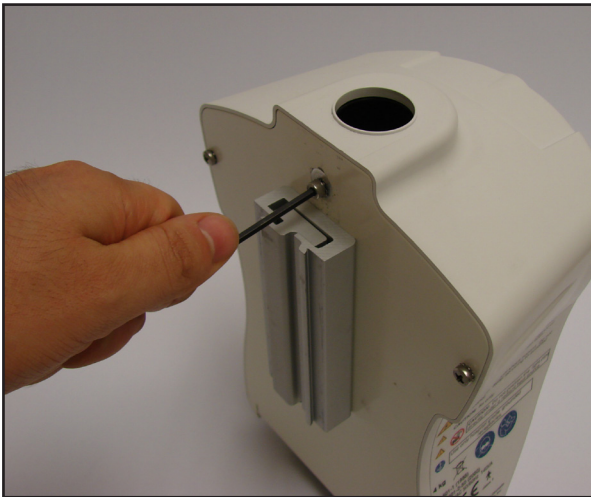

Figure 7-1
2. Use the provided hex key to remove the top mounting screw on the back plate (Refer to Figure 7-1).